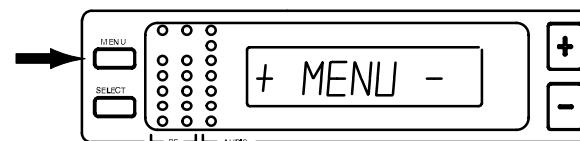

FIGURE 25
- Press the MENU button. The + MENU – display will appear, as shown in Figure 25.